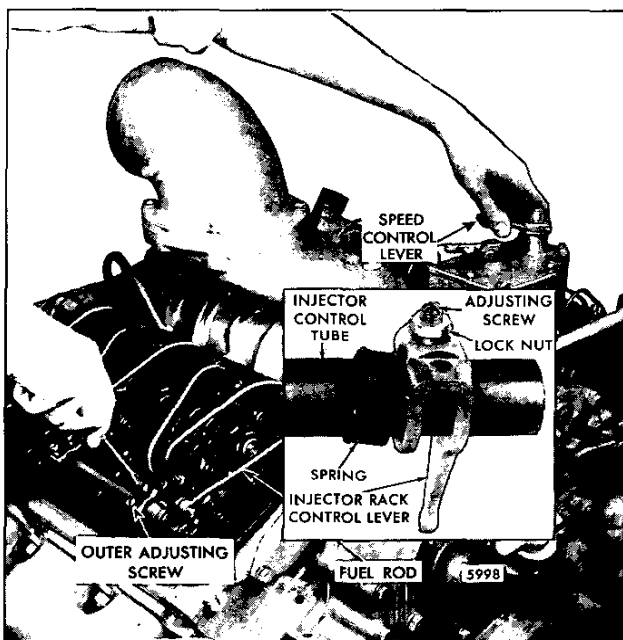

Fig. 3 – Positioning No. 3L Injector Rack Control Lever
5. Loosen all of the inner and outer injector rack control lever adjusting screws or the adjusting screws and locknuts on both injector control tubes (Fig. 3). Be sure all of the injector rack control levers are free on the injector control tubes.
Turn the inner adjusting screw on the No. 3L injector rack control lever down until a slight movement of the control tube lever is observed or a step-up in effort to turn the screwdriver is noted (Fig. 3). This will place the No. 3L injector in the *full-fuel* position.